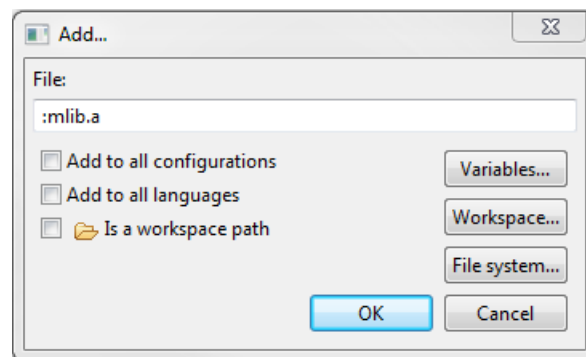

Figure 1-21. Library file inclusion
13. Type the following into the File text box (see Figure 1-21): :mlib.a